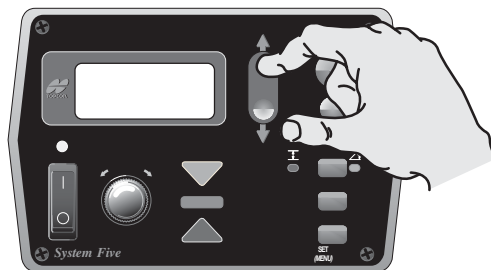

Figure 5-3. Center the Tow Point Cylinders
2. Center the tow point cylinders to maximize travel in raise or lower directions (Figure 5-3): use the jog switch on the Control Box or the switch provided with the Paver.